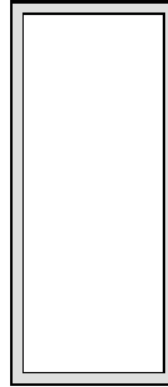

Figure 9. Solder Paste Application on Pins
- 4. The aperture opening for the signal pads should be between 50–80% of the QFN pad area as shown in Figure 9.